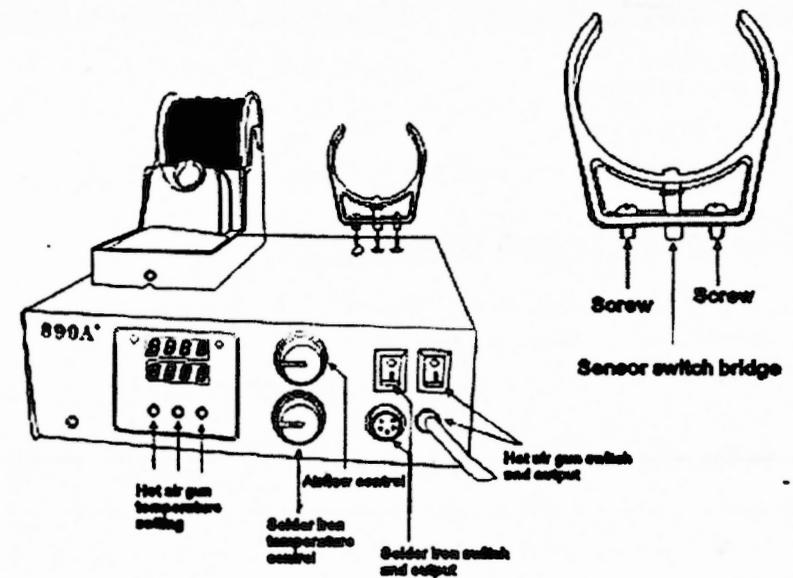

Figure 1. 899A* SMD Rework Station Parts Guide
2. See Figure 1 for the proper positioning of the holder.